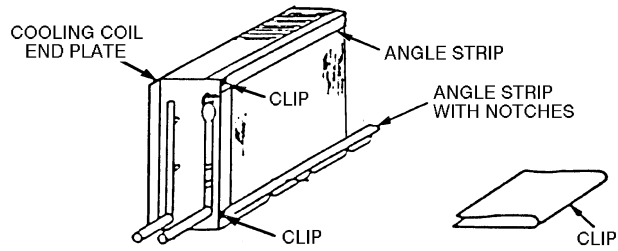

Fig. 8 — Installing Angle Strips
3. Remove 2 galvanized strips from hot water coil package. Install angle strip with notches resting in drain pan, and 1/2 in. flange pointing toward blower. Secure this angle strip to end plate of cooling coil by clips supplied in package. See Fig. 8. Place clips at each end of strip as close as possible to flange.